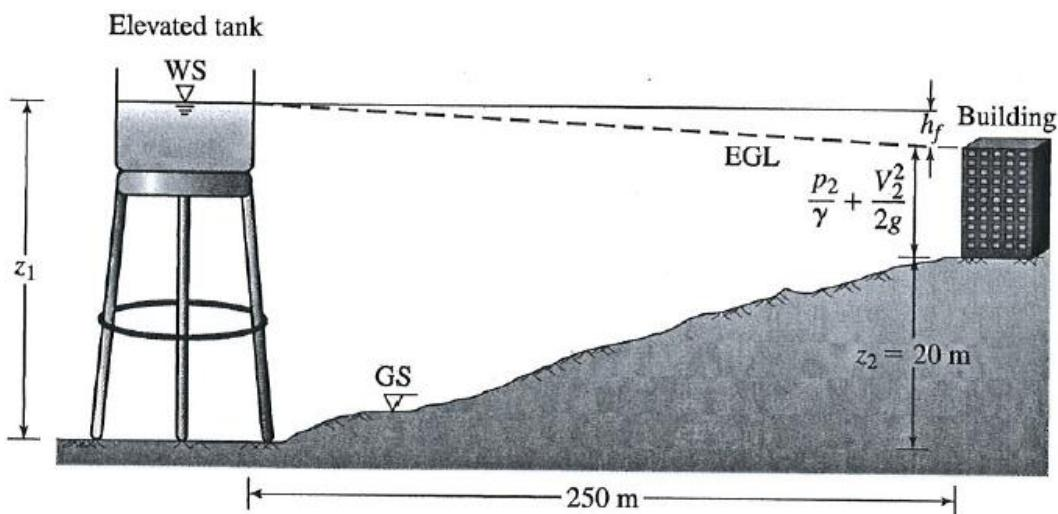

Figure 3
5. (a) In **Figure 3**, an open air elevated tank is delivered water to a building which is located 20 m higher than the ground surface at the tank. The required flow rate is $0.15 \text{ m}^3/\text{s}$ with 20 kN/m^2 pressure at the building. The connecting pipe line is 250 m long and 25 cm in diameter. The head loss through the pipe is 7.5 m . Determine the elevation of the water surface (z_1).